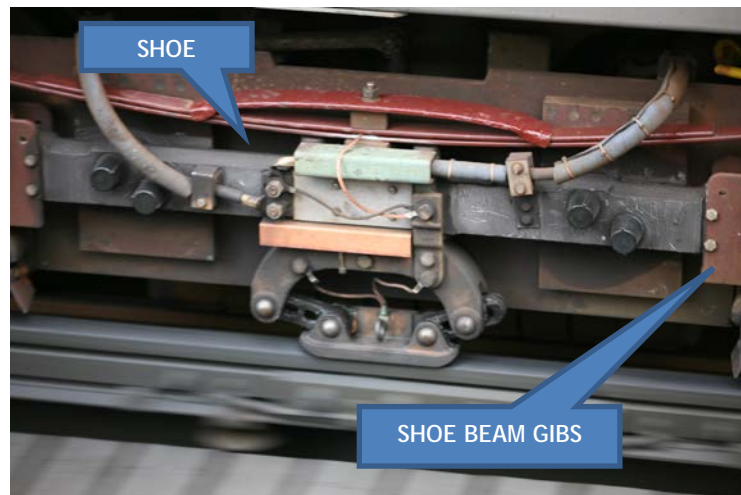

Figure 15: Train Shoe and Shoe Beam Gibs – Source: CTA
- **Shoe** – Check that contact shoe (Figure 15) has proper thickness. Make sure there are no holes. Current collector shoes must be replaced if the pad wear limit hole is exposed or the shoe is worn down to the condemning limit. Use a shoe pad wear gauge, if applicable. A braided copper band connects the power from each paddle to the high voltage power distribution network.
- **Shoe Beam Gibs** – Visually inspect for wear and damage as they are made of rubber and insulate the truck from the current collector. (Figure 15)